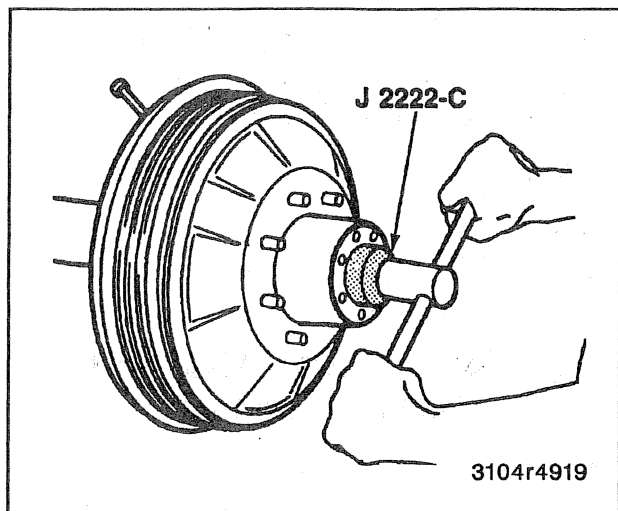

Figure 28—Removing or Installing Bearing Adjusting Nut
3. Nut using J 2222-C, or retaining ring. Refer to figure 28.
5. Adjusting nut. Refer to figure 28.
3. Adjusting nut. Refer to figure 28.